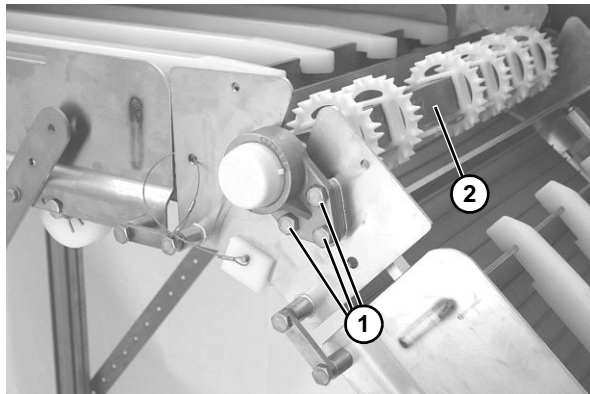

Figure 65
1. Remove three bolts (**Figure 65, item 1**) on each side, and remove spindle assembly (**Figure 65, item 2**) from knuckle.